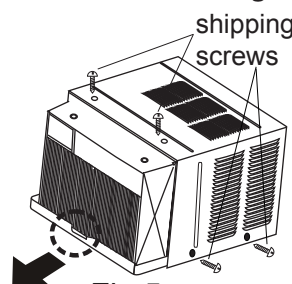

Fig.5
- Remove shipping screws from top of unit and also on the side by the base if installed(see Fig.5).